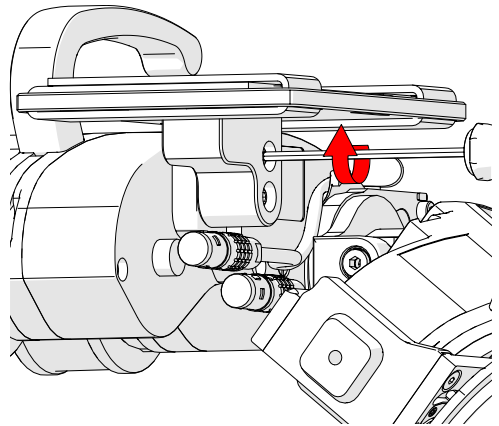

Fig. 289 - Tighten screws
3. Tighten the two backpack screws using the supplied 3 mm hex driver (Fig. 289).